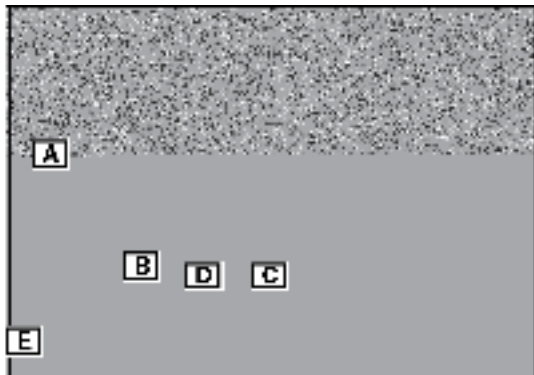

Fig. 28
Attach RED test lead clip (A) to point (B) and BLACK test lead clip (C) to DC output pin (D). Fig. 28. (It may be necessary to pierce wire with a pin as shown (E)).